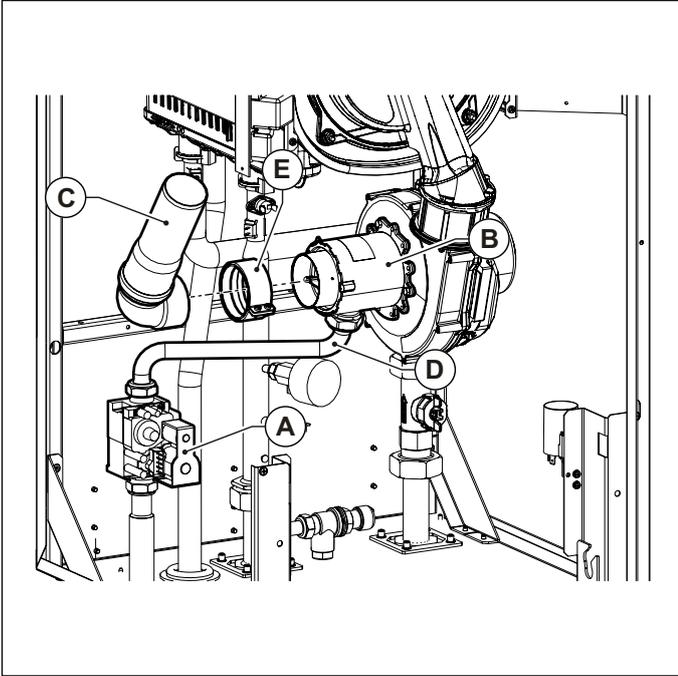

Fig. 32 Intake pipe
- Remove the intake pipe **C** by sliding it out of the mixer. On model KR 60, before sliding the pipe out, remove coupling **E** that fastens it to mixer **B** (see Fig. 32 Intake pipe).
- Disconnect the gas pipe **D** from the mixer **B** (see Fig. 32 Intake pipe).
- Connect the **D** gas pipe to the mixer (see Fig. 32 Intake pipe).
- Refit the intake pipe **C** to the mixer. On model KR 60 the pipe must be fastened with the coupling **E** (see Fig. 32 Intake pipe).